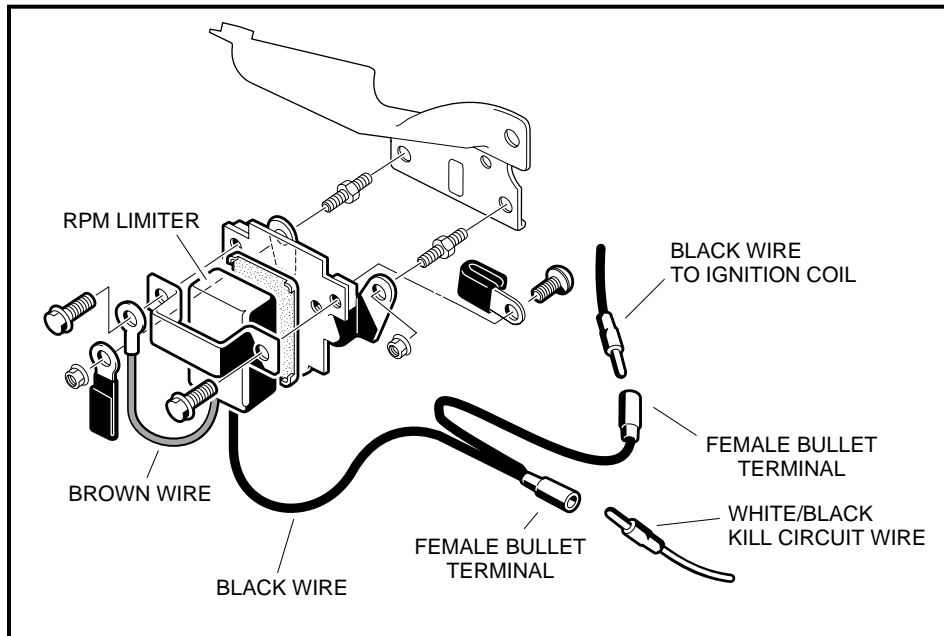

Figure 12-24 RPM Limiter Assembly
2. Disconnect the white/black wire from the black wire at the bullet connector located near the RPM limiter (2) (**Figure 12-24, Page 12-23**).
4. Remove the two flange head bolts from the RPM limiter band and remove the RPM limiter and damper (**Figure 12-24, Page 12-23**).
1. Place the RPM limiter damper on the front of the mounting bracket (**Figure 12-24, Page 12-23**).
- 4.1. Secure the extra wire with the clamp mounted on the back side of the RPM limiter mounting bracket (**Figure 12-24, Page 12-23**). Install the RPM limiter assembly onto the 2-ended bolts on the engine. Slide a wire clamp onto one of the bolts, then secure the limiter assembly with two M6 nuts and tighten to 50 in-lb (5.6 N·m) (**Figure 12-24, Page 12-23**).